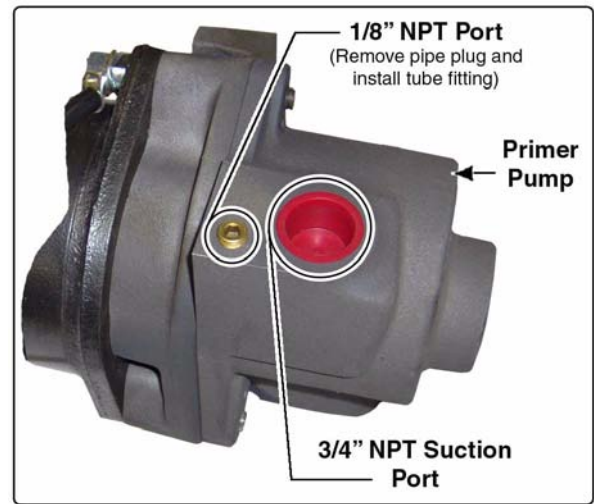

Figure 3-11: Pump Fittings
2. Remove the 1/8" NPT pipe plug in the top of the primer pump and install one 1/8" NPT x 5/16" (8 mm) tube fitting. (See Figure 3-11: "Pump Fittings.") Use appropriate thread sealant.